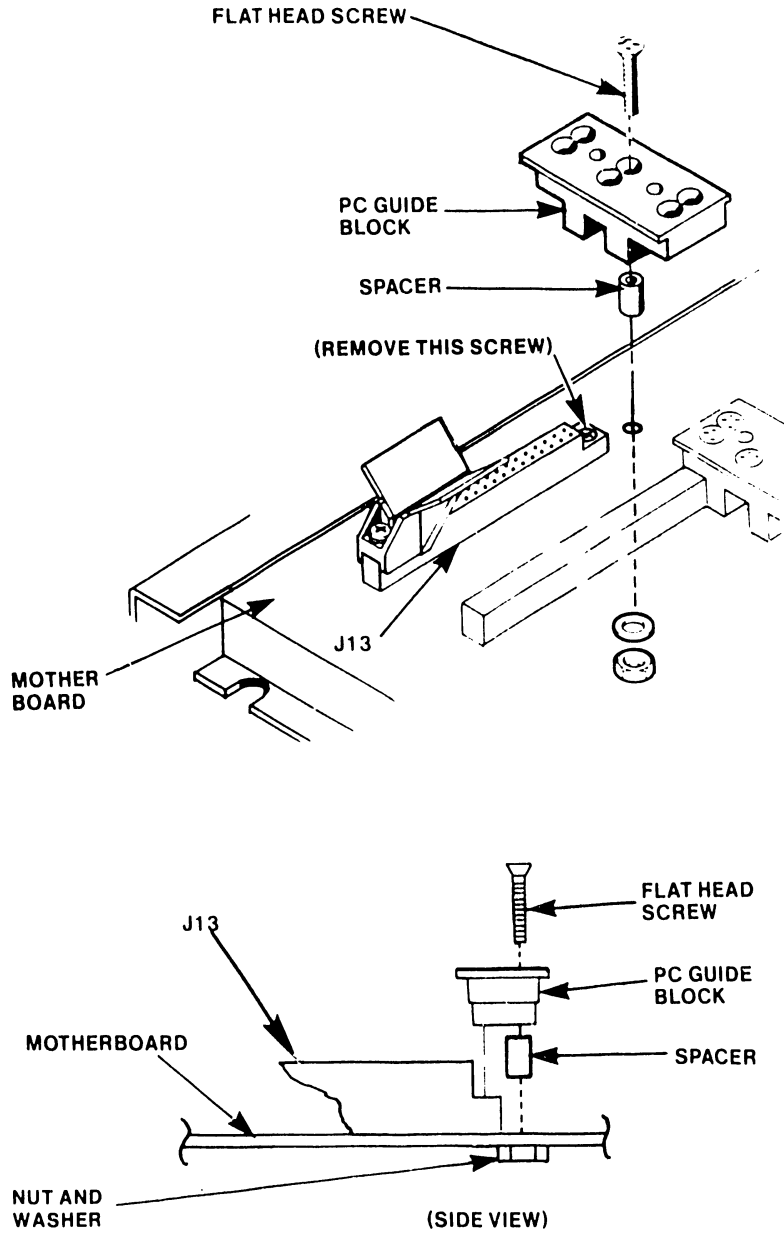

Figure 4-7 PC Guide Block Installation (140/145 Masters)
5. Two Phillips-head screws secure connector J13 (identified as connector number 1 on some 140/145 Masters) to the motherboard. Remove the rearmost screw from the connector as shown in Figure 4-7.